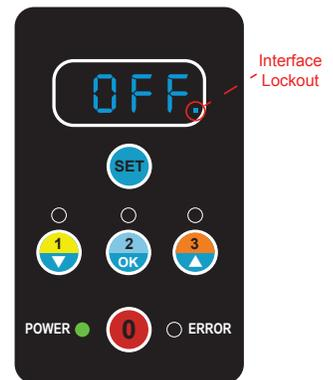

Figure 4
- When the user interface is locked, there will be a dot "." in the lower right corner of the LED display. (See Figure 4)